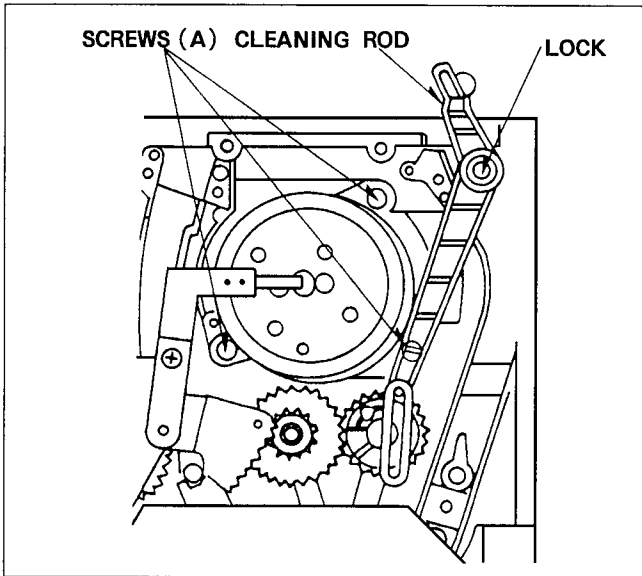

Figure M11
3. Unscrew 3 screws (A). Since there is very little clearance between DD Cylinder (Lower Cylinder) Unit and Chassis, remove the Cylinder gently and carefully (Figure M11).